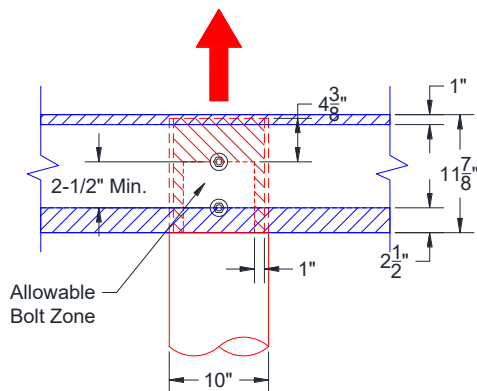

Figure 4: Uplift Design (Continuous Beam).
- $C_A = 1.0$ based on maintaining all NDS® required end and edge distances for both the beam and pile. See Figures 4 and 5 for required distances based on this example.